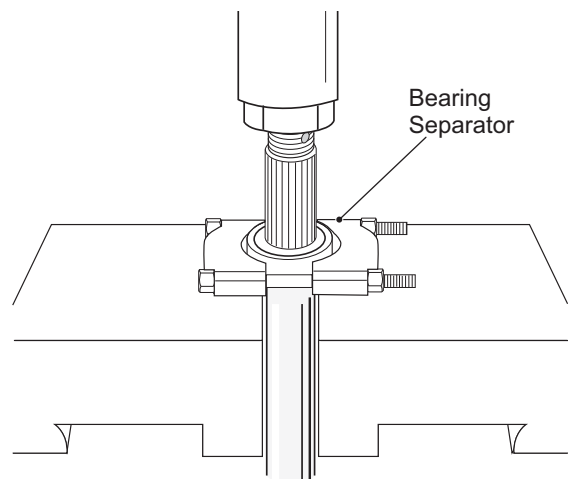

Fig. 5 Pressing Bearing from Axle Shaft
4. Remove the bearing by supporting the inner race on an arbor press bed and applying pressure to the threaded end of the axle shaft (Ref. Fig. 5).